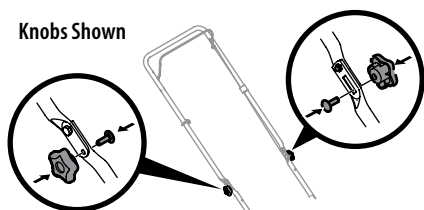

Figure 5
7. Reattach knobs or wing nuts and carriage bolts removed in Step 2 into lower holes of the handle (Figure 5).